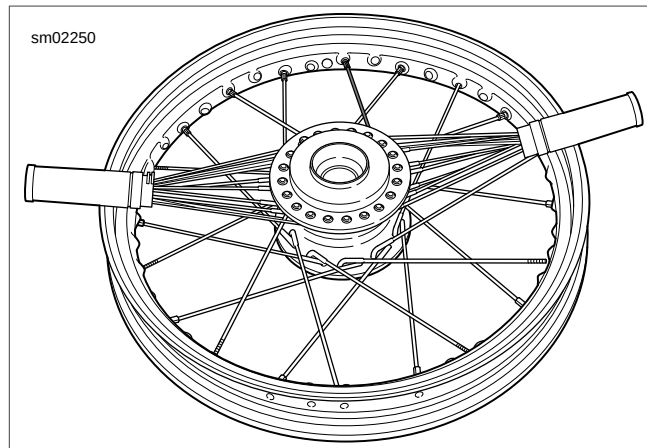

Figure 2-36. Beginning Spoke: Bottom Flange Inner
- a. See Figure 2-36. Each inner spoke (long head) crosses four outer spokes (short head).